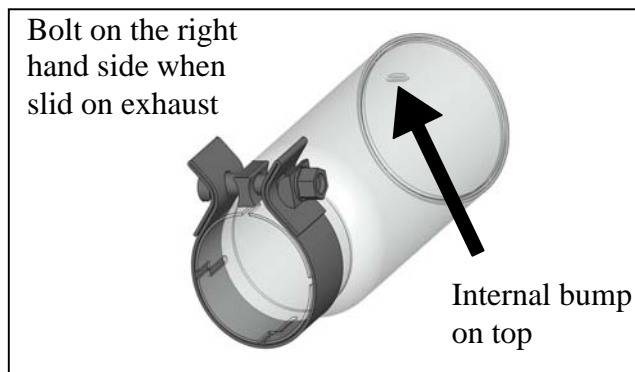

Fig. 1-1
(c) Slide the Stainless Steel Clamp over the exhaust tip inlet as shown. (Fig. 1-1)
(1) Position the clamping bolt to face the right side (passenger side) of the exhaust tip inlet when installing. (Fig. 1-1 & 1-2).